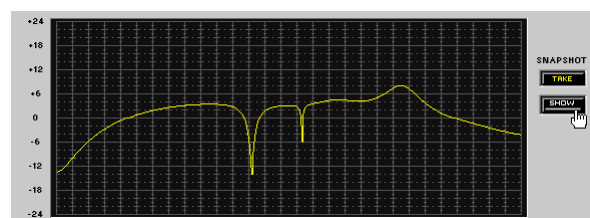

FIGURE 5-4: Hiding the Snapshot
4. Click the [SHOW] button again to toggle the snapshot off and on, as pictured on the right in Figure 5-4.